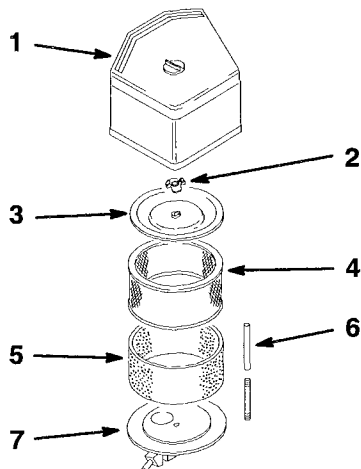

Figure 15
2. Clean around the air cleaner cover to prevent dirt from getting into the engine and causing damage (Fig. 15).
3. Carefully slide the foam element off the paper element (Fig. 15).
4. Unscrew the cover nut and remove the cover and paper element (Fig. 15).
1. Carefully slide the foam element onto the paper air cleaner element (Fig. 15).
2. Place the air cleaner assembly onto the air cleaner base (Fig. 15).
3. Install the air cleaner cover and secure with cover nuts (Fig. 15).